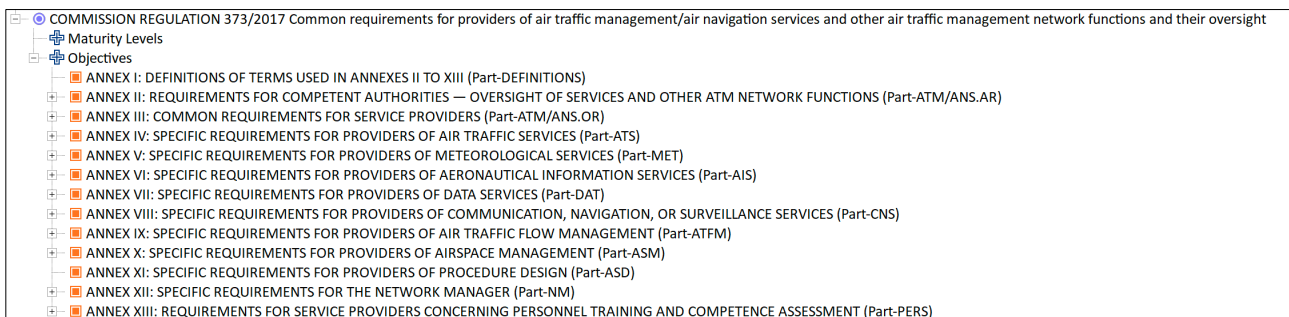

Figure 1: COMMISSION IMPLEMENTING REGULATION (EU) 2017/373 of 1 March 2017
January 1st, 2019 has been an important date for European sky as another section (paragraph 3) of Article 10 of an European Regulation came into force. We are talking about *COMMISSION IMPLEMENTING REGULATION (EU) 2017/373 of 1 March 2017 (Figure 1), laying down common requirements for providers of air traffic management/air navigation services and other air traffic management network functions and their oversight, repealing Regulation (EC) No 482/2008, Implementing Regulations (EU) No 1034/2011, (EU) No 1035/2011 and (EU) 2016/1377 and amending Regulation (EU) No 677/2011.*